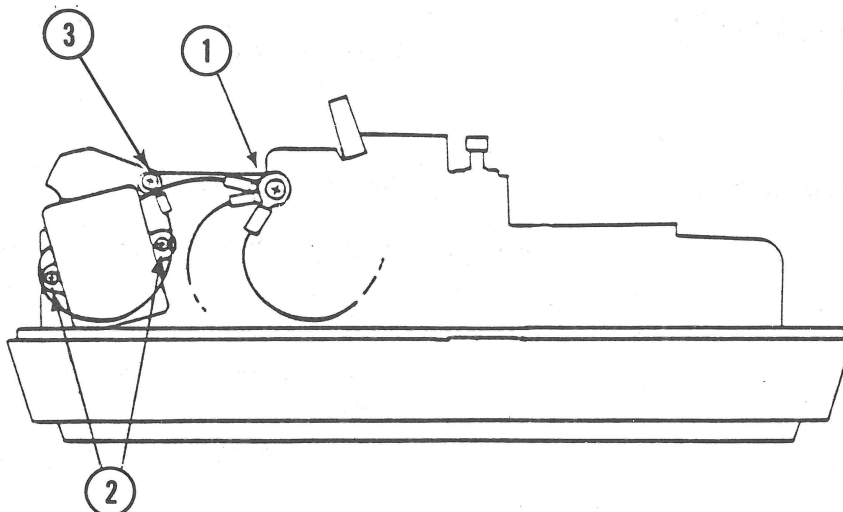

FIGURE 35
4. Replace the noise filter screws (Figure 35, #2).
5. Put together the screw, washer, four ground cables, and star washer, and screw them into the side frame (see Figure 35, #1). Do the same with the other two ground cables (Figure 35, #3).